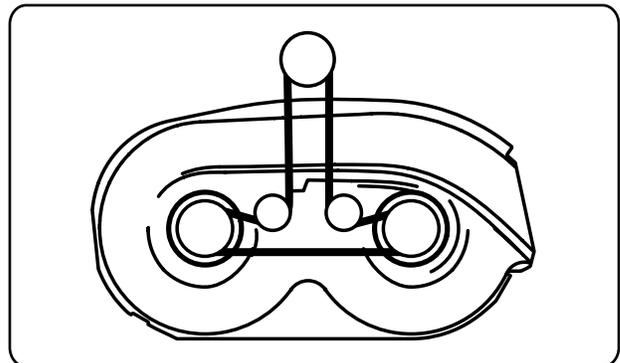

Figure 8.18
- For a 42" "G" deck and a 46" "T" deck, See Figure 8.18.